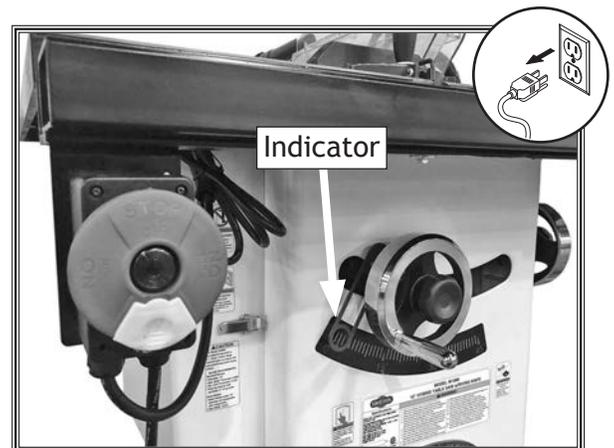

Figure 102. Tilt indicator arrow.
- If blade is 90° to table, then adjustments do not need to be made. Make sure tilt indicator arrow shown in **Figure 102** points to 0° mark on scale. Adjust position by loosening button head screw, moving indicator with your fingers, then tightening screw.